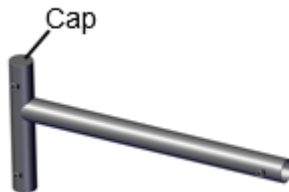
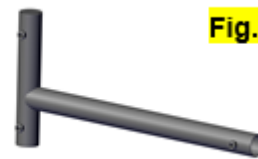

Fig. 1
Fig. 2
1. Set the rack to the high (Fig. 1) or low (Fig. 2) position, whichever is best for the cargo and the truck, by flipping the Left and Right Crossbraces (1 and 2). For bowed canoes, the high position is recommended. If you choose to flip the Crossbraces (1 and 2), you will have to remove and replace the Caps.